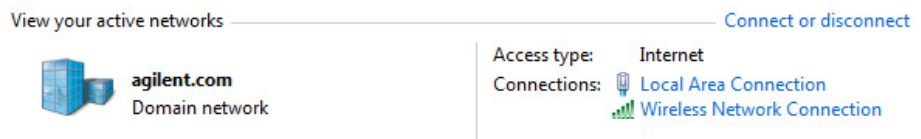

Figure 12 Network and Sharing Center – View your active networks
- b Under **View your active networks**, click **Local Area Connection** (Figure 12). Note that the appearance of the Network and Sharing Center screen may differ slightly from that shown in Figure 12 depending on your current network setup.